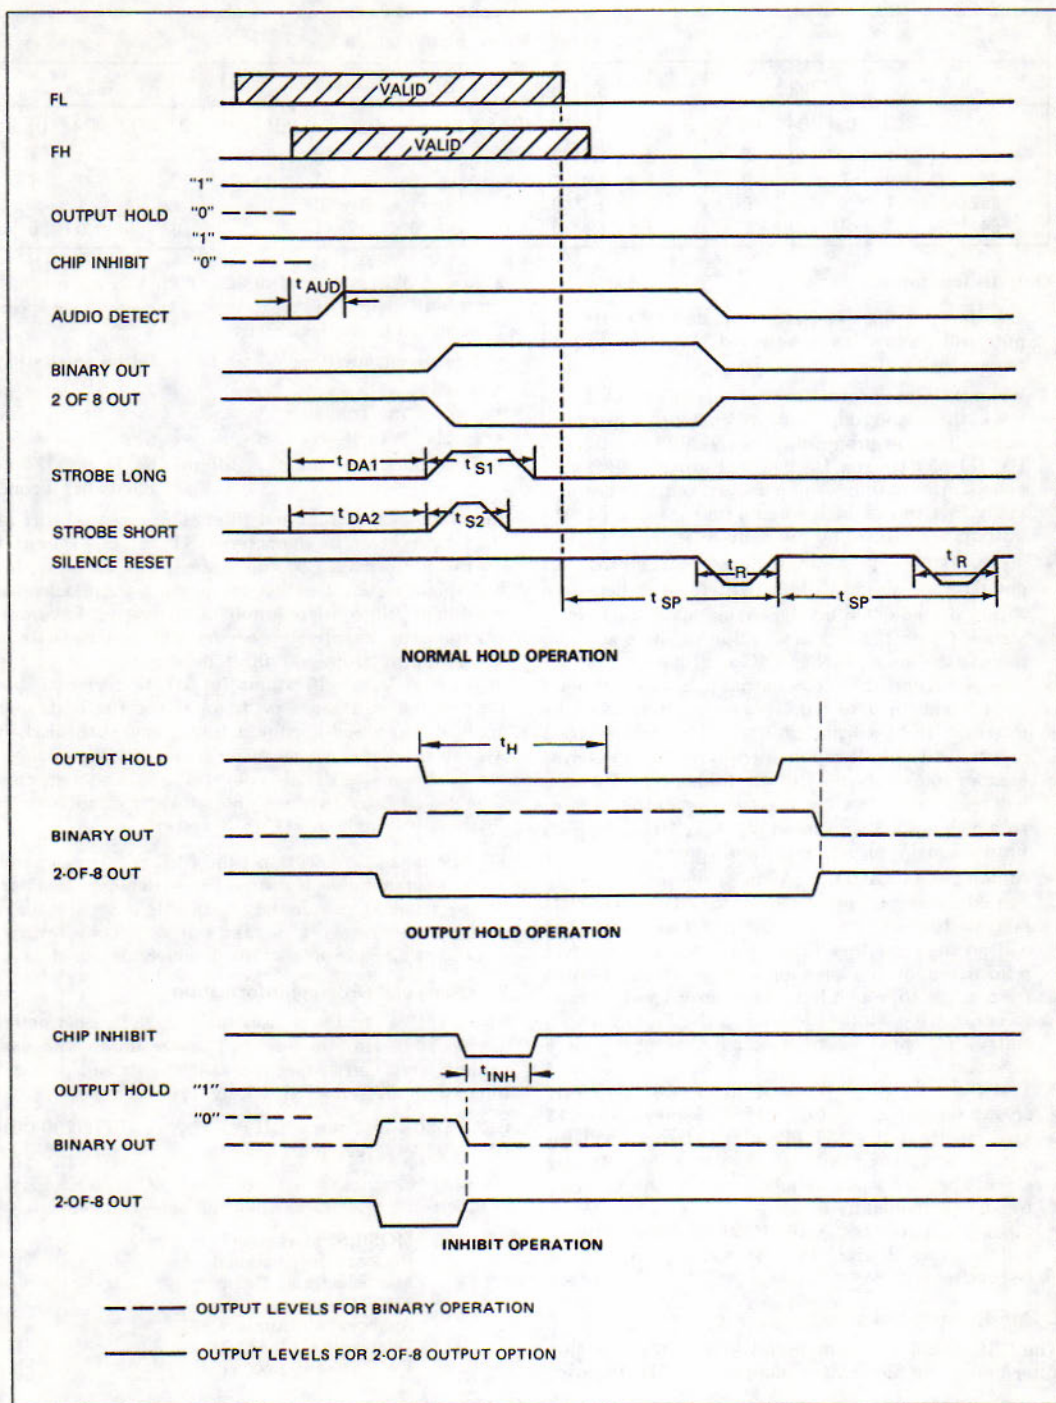

Figure 4. Timing Diagram
- Strobe (ST) — This output indicates when the output data are valid. Validity is defined as detection within 39 ms or 33 ms depending upon the level of Strobe Control. For a description of the operation, refer to the inputs BIN and SC and figure 4.